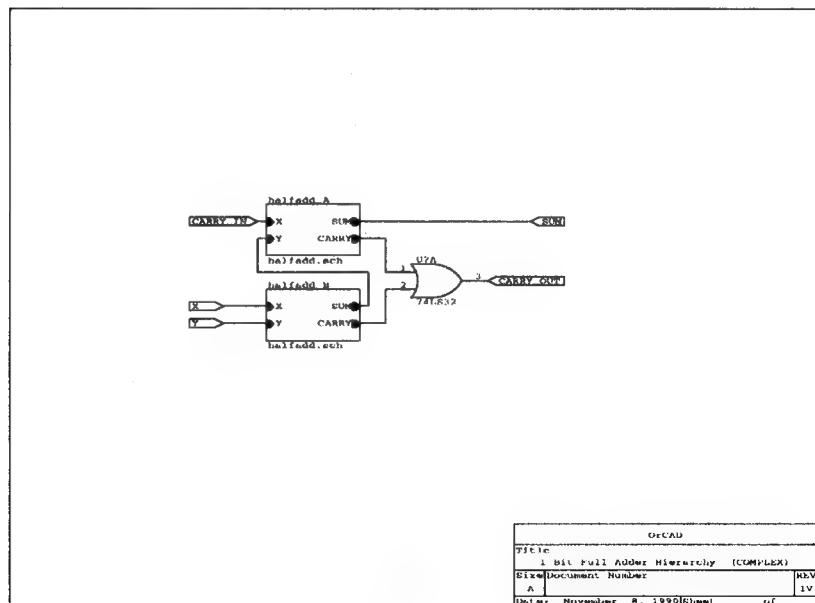

Figure 8-9. Full-adder worksheet.
2. Place the pointer inside one of the sheet symbols and select Enter. Draft displays the worksheet referred to by the selected sheet symbol. Figure 8-9 shows the full-adder worksheet.